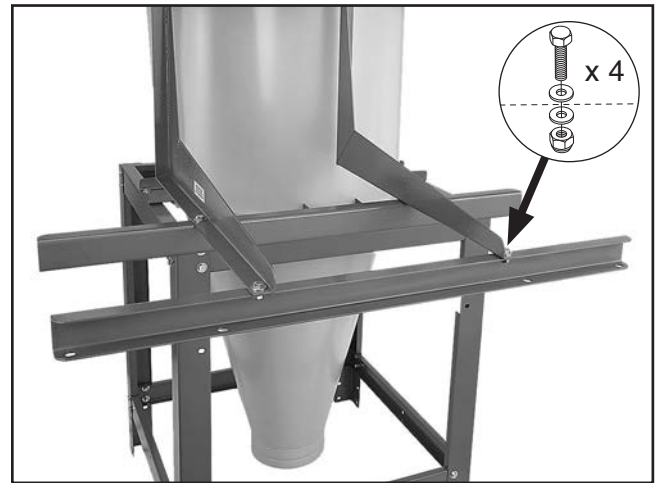

Figure 22. Attaching filter cross braces to L-braces.
17. Attach the two filter cross braces to the L-braces, as shown in **Figure 22**, using (4) $\frac{3}{8}$ "-16 x $\frac{3}{4}$ " hex bolts, (8) $\frac{3}{8}$ " flat washers, and (4) $\frac{3}{8}$ "-16 hex nuts.